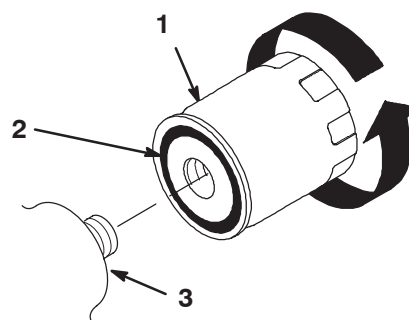

Figure 24
7. Apply a thin coat hydraulic fluid to the rubber gasket on the replacement filter (Fig. 24).
8. Install the replacement hydraulic filter onto the filter adapter. Tighten it clockwise until the rubber gasket contacts the filter adapter, then tighten the filter an additional 1/2 turn (Fig. 24).